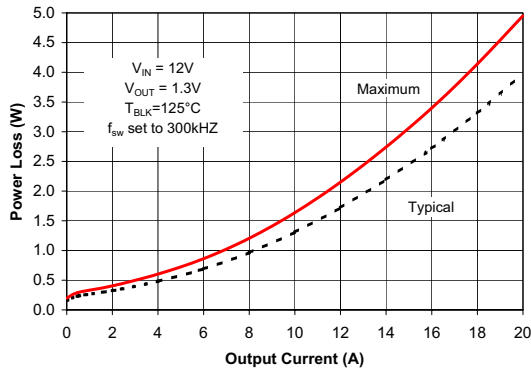
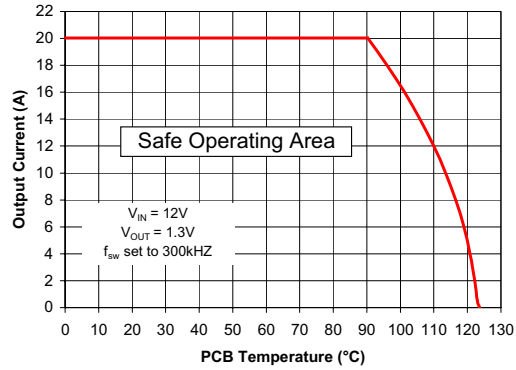
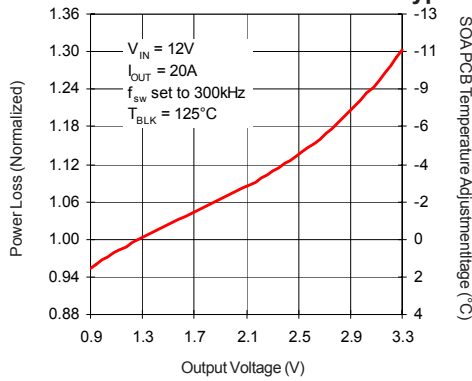

Fig 1. Power Loss vs Current
Fig 2. Safe Operating Area (SOA) vs T_{PCB}
Fig 3. Normalized Power Loss vs V_{OUT}
To make adjustments to the power loss curves in Fig. 1, multiply the normalized value obtained from the curves in Figs. 3, or 4 by the value indicated on the power loss curve in Fig. 1. If multiple adjustments are required, multiply all of the normalized values together, then multiply that product by the value indicated on the power loss curve in Fig. 1. The resulting product is the final power loss based on all factors.
To make adjustments to the SOA curve in Fig. 2, determine the maximum allowed PCB temperature in Fig. 2 at the required operating current. Then, add the correction temperature from the normalized curves in Figs. 3 or 4 to find the final maximum allowable PCB temperature. When multiple adjustments are required, add all of the temperatures together, then add the sum to the PCB temperature indicated on the SOA graph to determine the final maximum allowable PCB temperature based on all factors.
- (Fig. 1) Maximum power loss = 5 W
- (Fig. 3) Normalized power loss for output voltage ≈ 1.14
- (Fig. 2) SOA PCB Temperature = 90°C
- (Fig. 3) Normalized SOA PCB Temperature for output voltage $\approx -4.5^\circ\text{C}$